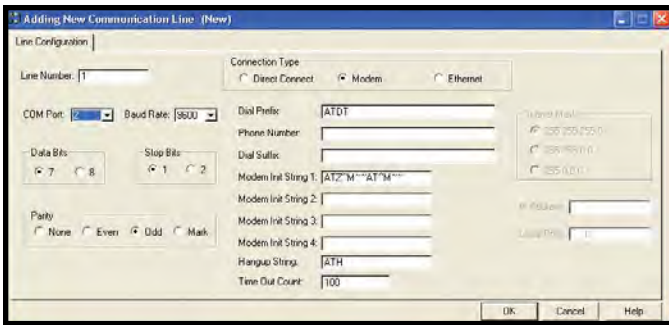

Figure 114. Out-of-the-Box™, Adding New Communication Line window
- IV. The “Adding New Communication Line” window will open. The following fields will have to be configured for modem use (see Figure 114):